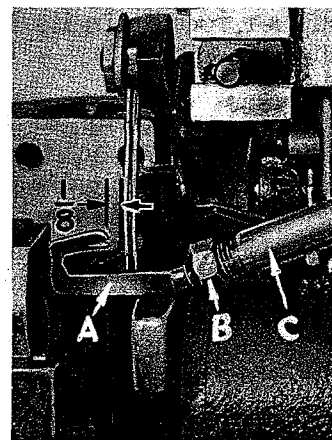

Fig. 5
At this point, insert lower spreader (A, Fig. 5) into bar (C). With lower spreader at the left end of its stroke, set the spreader point $1/8$ inch from center of left needle, using loop gauge No. 21225 G- $1/8$. Do not have lower spreader deflecting the needles. Tighten nut (B).